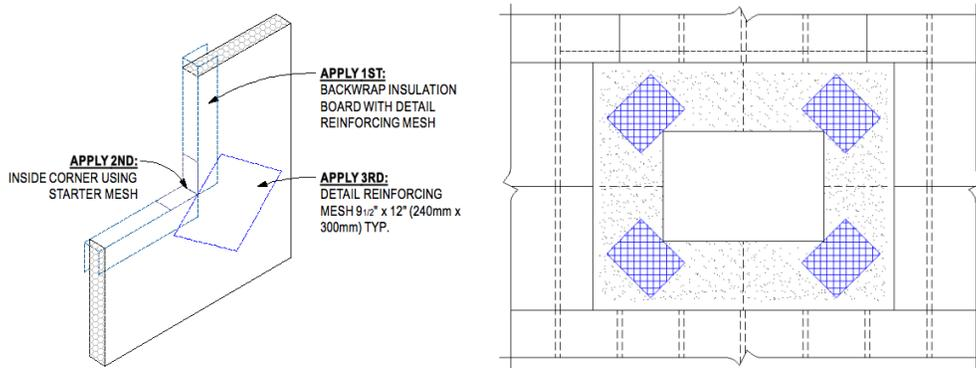

Figure 8
- 8.3.12.1. At openings, align the insulation boards so that the edges (vertical and horizontal joints) do not coincide with the corners of the opening as illustrated in Figure 8 (refer to Dryvit Outsulation PD System Installation Details, DSC603).
- 8.3.19. Corners of all openings such as windows, doors, mechanical equipment and all penetrations shall be reinforced with Detail Mesh placed diagonally to the opening as illustrated in Figure 8 previously.